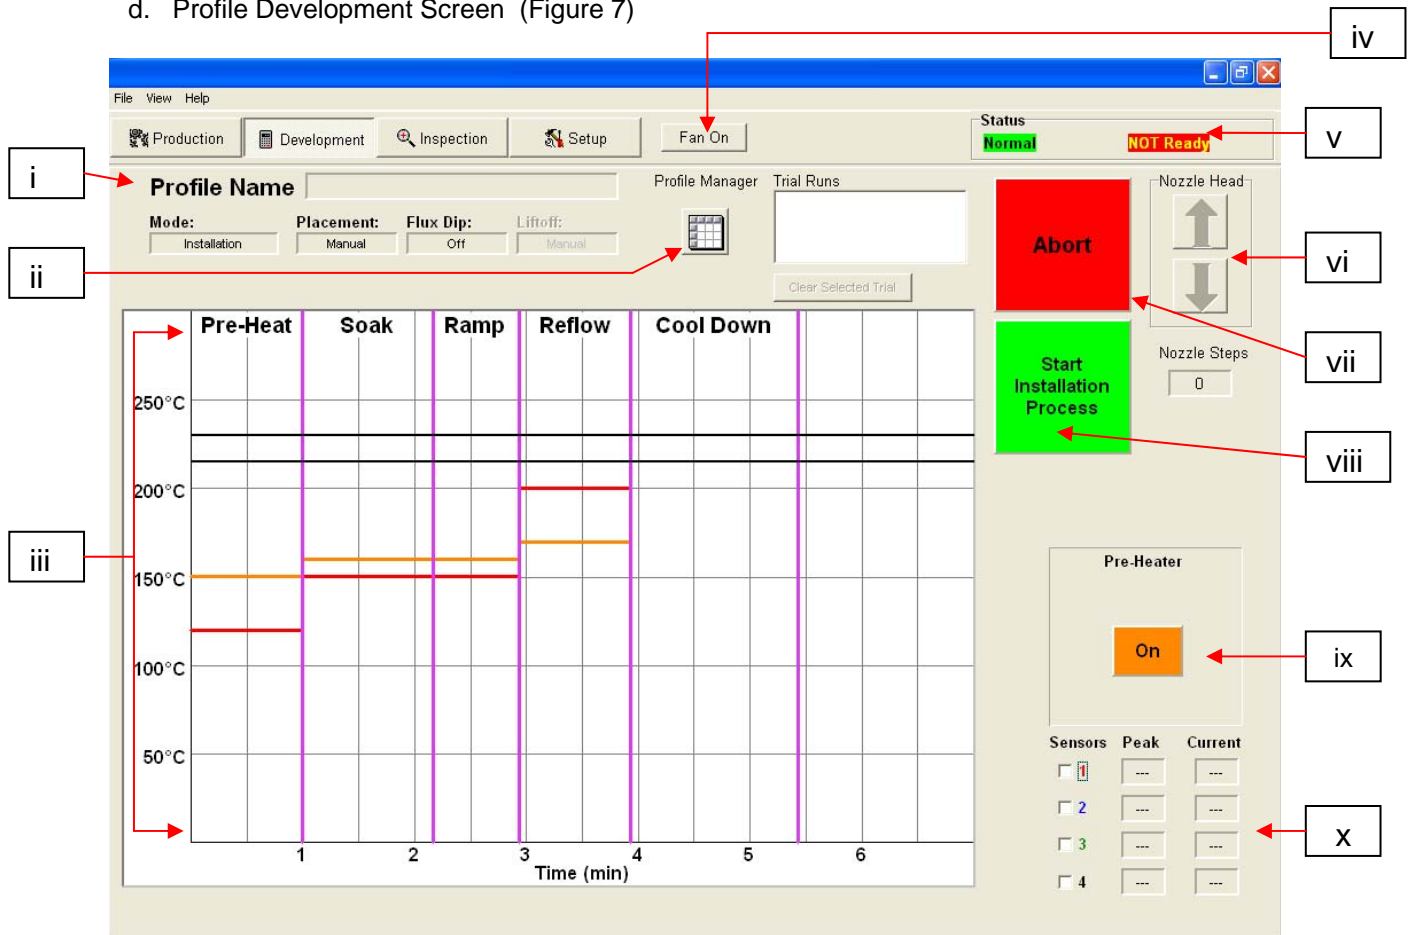

Figure 7a
- ii. Profile Manager. Temperature and time setting entered by the developer can be viewed managed here (Figure 7a).